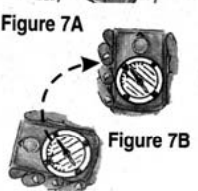

Figure 7A
- Turn the Dial so that the Orienting Lines are aligned with the side margins of the map or with True Meridians drawn on the map to get a Bearing to your destination. The compass dial's Red "N" must point to North on the map. (Figure 7A)